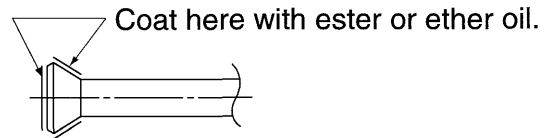

Fig. 10
- When connecting the flare nut, apply ester oil or ether oil to the flare section (both inside and outside), and spin 3-4 times before screwing in. (Refer to Fig. 10)